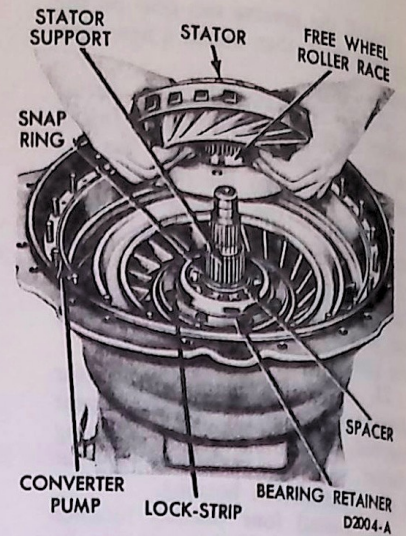

FIG. 65 Converter Stator Installation
57. Hold the freewheel roller race in the stator, and install the stator on the stator support as shown in Fig. 65. The stator should rotate freely in the direction of engine rotation (clockwise) and should lock up when rotated in the other direction.